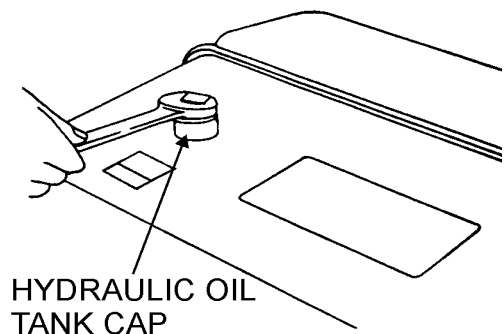

Figure 34. Hydraulic Oil Change
4. Open the tank cap (Figure 34) and fill tank with hydraulic oil. (Capacity: About 4.5 gallons). Use **ShellTellus Oil #46** or equivalent.